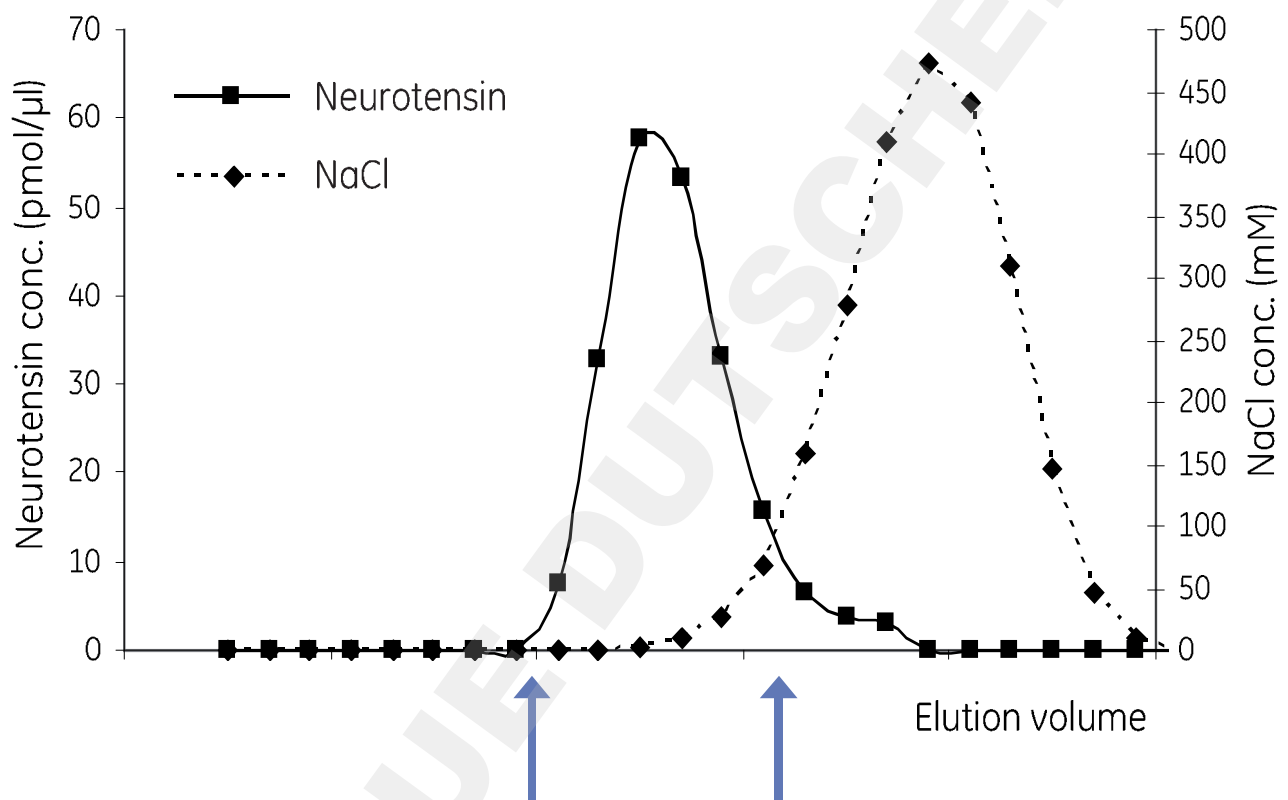

Fig 1. Removal of NaCl from a neurotensin solution with PD MidiTrap G-10. The neurotensin is eluted in volume fractions indicated by arrows.
For optimization of recovery/desalting capacity, make an elution profile of the studied peptide/biomolecule, see example in Fig 1.
- Elute with 1.2 ml buffer and collect the eluate. A typical elution profile is shown in Fig 1.
The following experiment is included as an example of a desalting experiment. A PD MidiTrap G-10 was equilibrated with MilliQ™ water. 500 μl of neurotensin (100 pmol/ μl) solution in 1.0 M NaCl was applied onto the column. The neurotensin recovery was 94% and the desalting capacity was above 95%, see Fig 1.